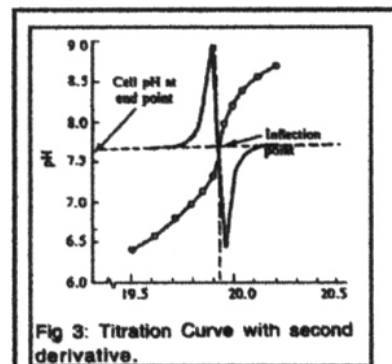

Figure 3. pH vs volume with 2nd derivative.
Because we don't have the true mathematical equation for the titration curve, only a collection of "X, Y data points," the likelihood of the maximum in the first derivative being exactly at the equivalence point of the titration is very small. It will, however, be in the near vicinity of the equivalence point. An even more exact measure of the equivalence point can be determined by repeating the derivative process a second time, this time taking $\Delta(\Delta Y / \Delta X) / \Delta X$, i.e., the change in the first derivative with respect to the change in "X." If you analyze the change in the slope of the first derivative with increasing "X," you will see that at the "true" equivalence point, the slope of the second derivative will be zero (0), i.e., a horizontal line. This means that at the equivalence point the slope of the second derivative will go from some positive value, through zero to some negative value as illustrated in Figure 3. Thus, the exact equivalence point corresponds to the zero value of the second derivative. Again, it will rarely occur that the zero value will occur exactly on an "X" data point. This, however, is irrelevant, because the most exact value of the second derivative, and hence also the most exact volume at the equivalence point, can be found by interpolation, a process for accurately calculating an intermediate value between two points, assuming a straight line between the two points. For most situations, even for curved lines, this is a reasonable approximation if the two points are close enough to each other relative to the curve. Instructions for carrying out interpolations are included as an appendix to this experiment.